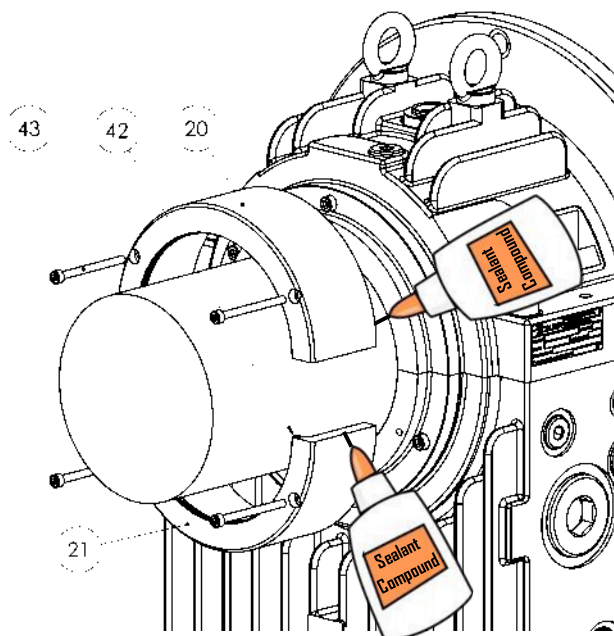

Fig. 47
- Apply the sealing compound on the surface of the split line and the face making contact with the seal carrier of the floating labyrinth seal or rigid seal (Fig. 47).
- Next, lightly press the lower part (21) (recognizable by the drain hole) onto the shaft from below and tighten the fastening screws.
- Then, position the upper part (20), align with the split line and attach with the screws.
- When the baffle is combined with a seal carrier, follow the torque (A) on the torque table for screw (43).
- When the baffle is combined with an aluminum rigid seal, follow the torque (B) on the torque table for screw (43).